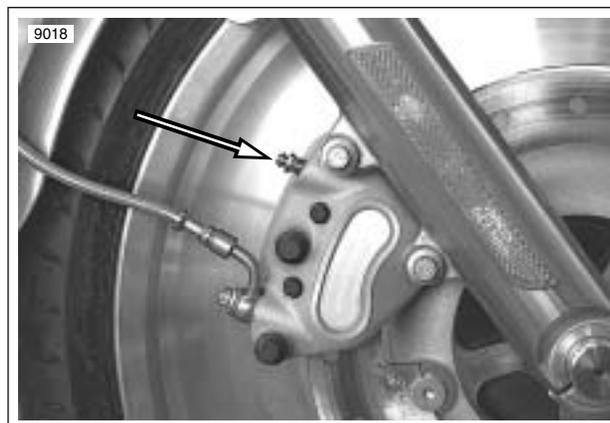

Figure 1-28. Front Brake Bleeder Valve
- a. Front brake bleeder valve-see Figure 1-28.